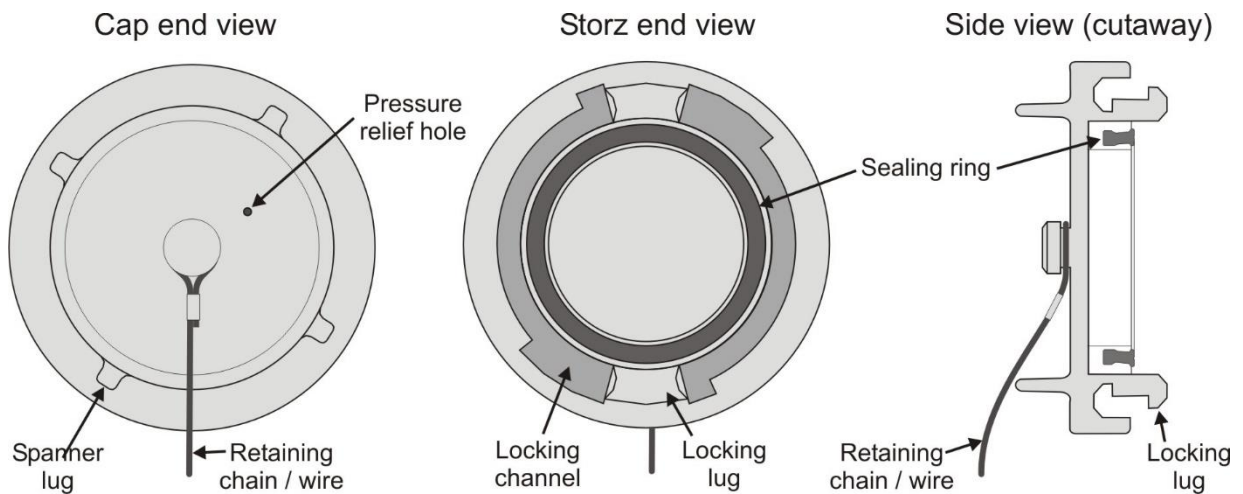

Figure 3 Storz protective end cap
- 6.4.1 Each hose connection must be provided with a protective blanking cap which is securely attached to the fixed system by a retaining chain or wire (refer to Figure 3).